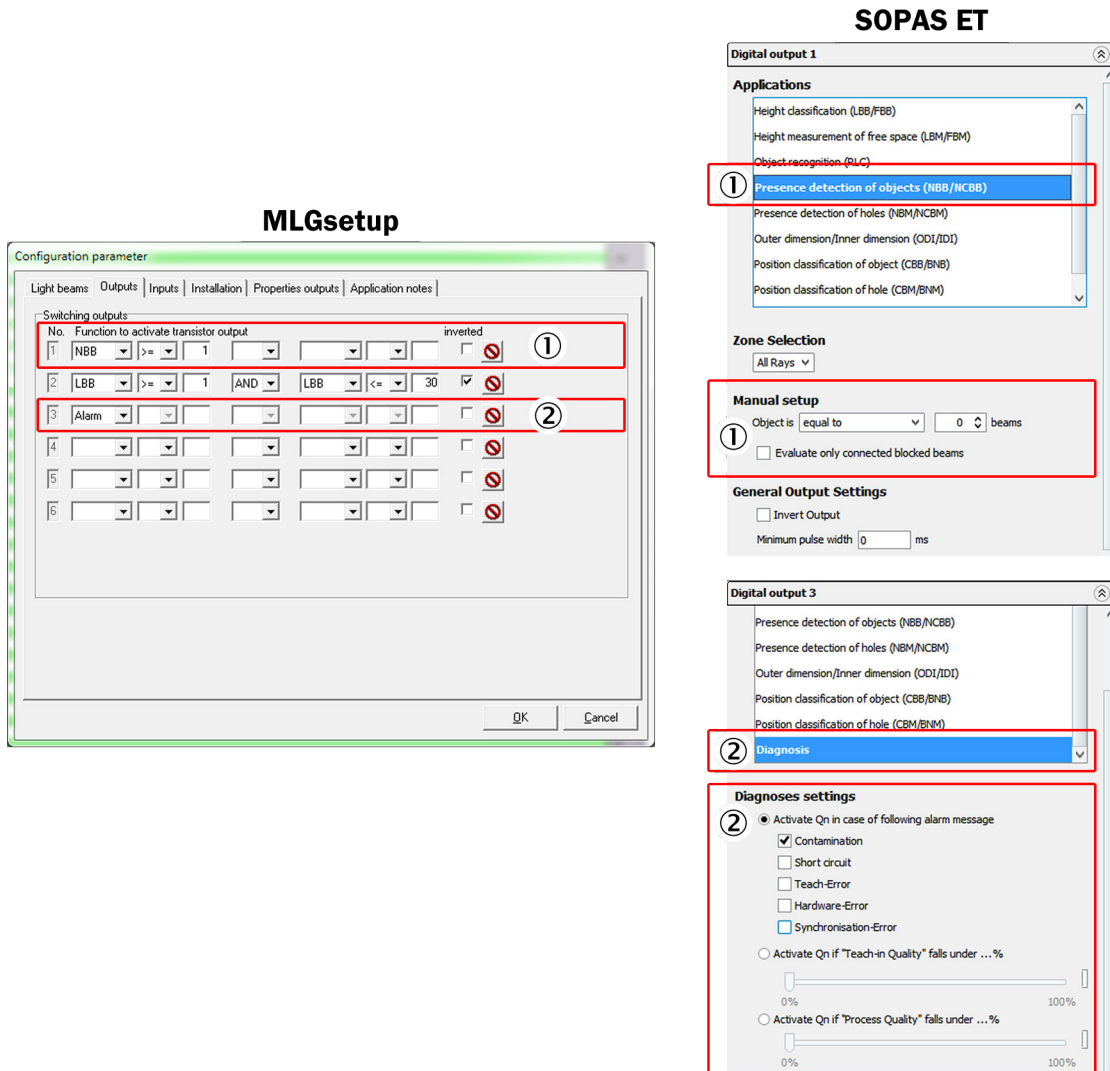

Figure 19: Outputs in MLGsetup and SOPAS ET
- “Outputs” tab: see figure 19, page 29
- ① Output Q1 (see figure 19, page 29)
- ② Output Q2
- ③ Output Q3, configured via “Contamination output (Alarm)” function (see figure 19, page 29)